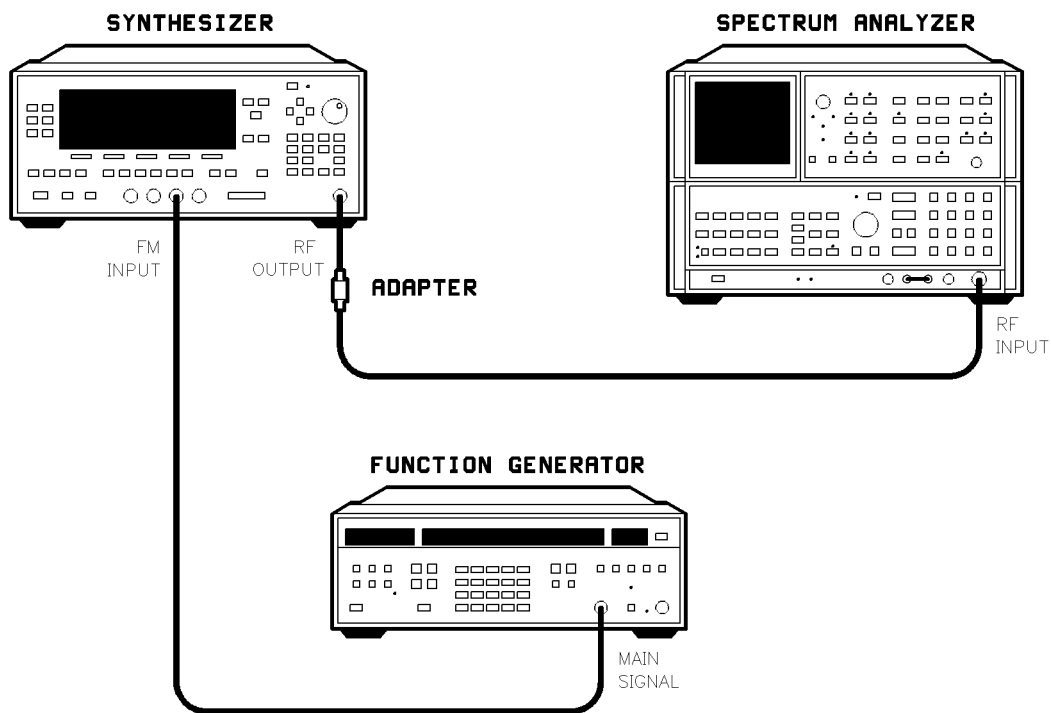

Figure 3-33. FM Gain Adjustment Setup
1. Connect the equipment as shown in Figure 3-33. Preset all instruments and let them warm up for at least one hour.